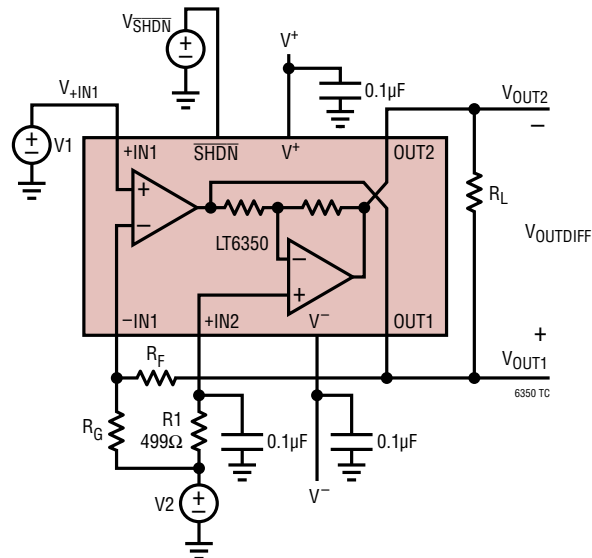

Figure 1. DC Test Circuit.
**ELECTRICAL CHARACTERISTICS** The ● denotes specifications that apply over the full specified temperature range, otherwise specifications are at  $T_A = 25^\circ\text{C}$ . Unless noted otherwise,  $V^+ = 5\text{V}$ ,  $V^- = 0\text{V}$ ,  $V_{+IN1} = V_2 = \text{Mid-Supply}$ ,  $V_{\text{SHDN}} = V^+$ ,  $R_L = \text{OPEN}$ ,  $R_F = \text{SHORT}$ ,  $R_G = \text{OPEN}$ .  $V_S$  is defined as  $(V^+ - V^-)$ .  $V_{\text{OUTCM}}$  is defined as  $(V_{\text{OUT1}} + V_{\text{OUT2}})/2$ .  $V_{\text{OUTDIFF}}$  is defined as  $(V_{\text{OUT1}} - V_{\text{OUT2}})$ . See Figure 1.
**Note 6:**  $V_{\text{OS2}}$  is measured as the total output common mode voltage offset (error between output common mode and voltage at V2).  $V_{\text{OS2}}$  includes the combined effects of op amp 2's voltage offset,  $I_B$ ,  $I_{\text{OS}}$  and mismatch between on-chip resistors and the  $499\Omega$  external resistor, R1 (See Figure 1).
$T_A = 25^\circ\text{C}$ ,  $V^+ = 5\text{V}$ ,  $V^- = 0\text{V}$ ,  $V_{+IN1} = V_2 = \text{Mid-Supply}$ ,  $V_{SHDN} = V^+$ ,  $R_F = \text{SHORT}$ ,  $R_G = \text{OPEN}$ ,  $R_L = \text{OPEN}$ . See Figure 1.